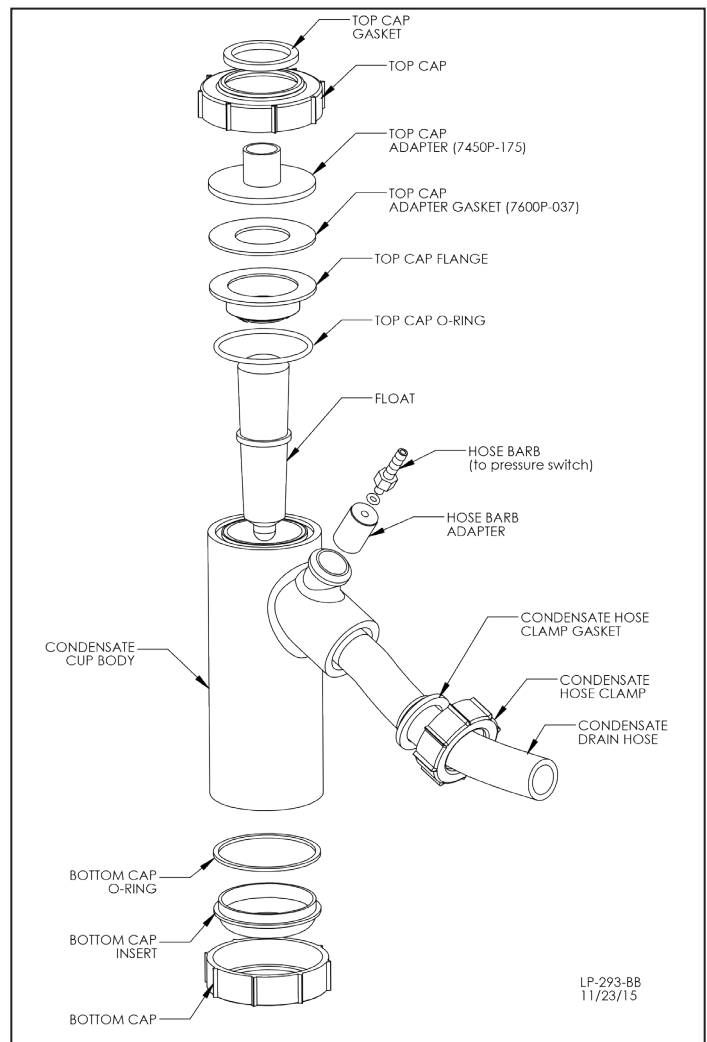

Figure 29 - Condensate Detail
**NOTE:** Ensure all parts shown in Figure 29, Condensate Detail, are installed with the condensate trap. If any parts are missing, DO NOT reinstall the trap. Replace the entire assembly.